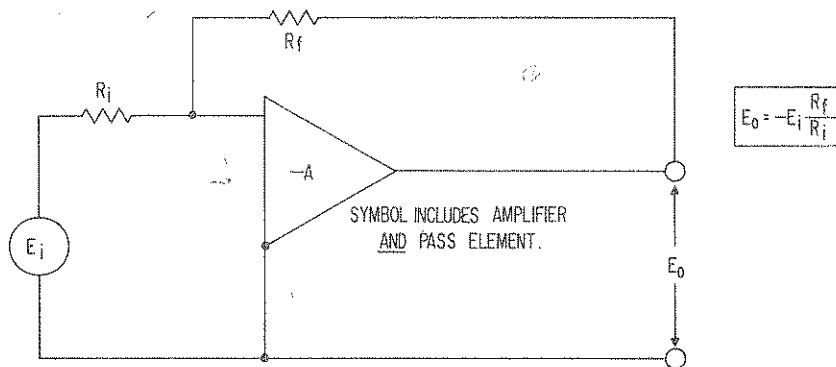

FIG. 3-2 OPERATIONAL AMPLIFIER, INVERTING CONFIGURATION.
Substituting the familiar operational amplifier terminology for the elements around the power supply, a model of an inverting, unipolar amplifier results. Its output voltage, E_o is derived from relationship: $E_o = -E_i R_f/R_i$ (7), (from Eq. 4) where R_f/R_i is defined as the closed-loop or operational gain. (See FIG. 3-2.)